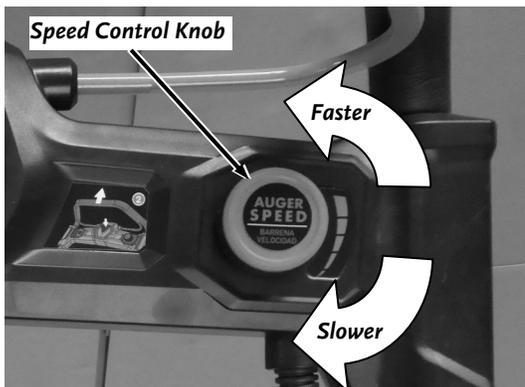

Figure 9
2. Rotate the Speed Control Knob counterclockwise to increase Auger speed (**Figure 9**).